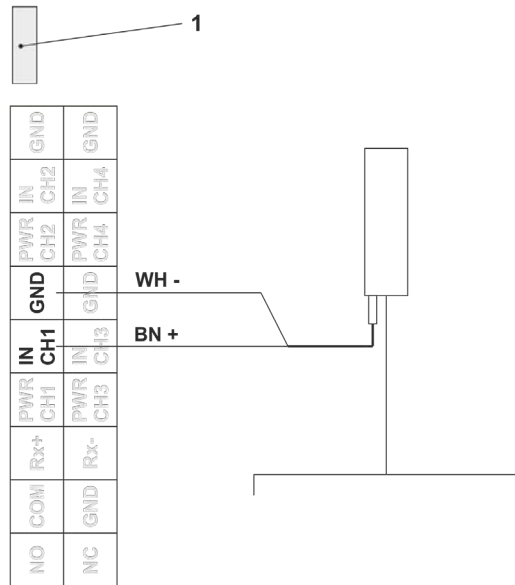

Fig. 29-5 Connecting a Rain Gauge
Rain Gauge: Chap. "29.4 Connecting the Rain Gauge" and Fig. 29-5.
1. Plug the enclosed jumper (short circuit bridge) (Fig. 29-5 Pos. 1) onto the two empty pins next to the terminal strip.
3. Connect the brown and white wires to the terminal strip according to Fig. 29-5. The two remaining lines (green/gn and yellow/ye) are only used if the rain gauge has a heater and this is to be connected. The two cables are then connected to the 12 V voltage terminal for the external power supply: yellow (ye) for (+) or green (gn) for (-)